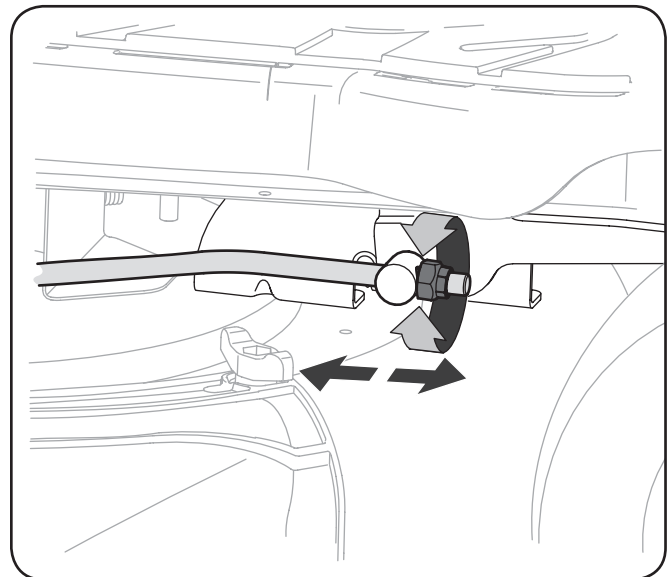

Figure 6-4
3. Locate the flange lock nut on the front end of the PTO Lift Rod. See Figure 6-4.